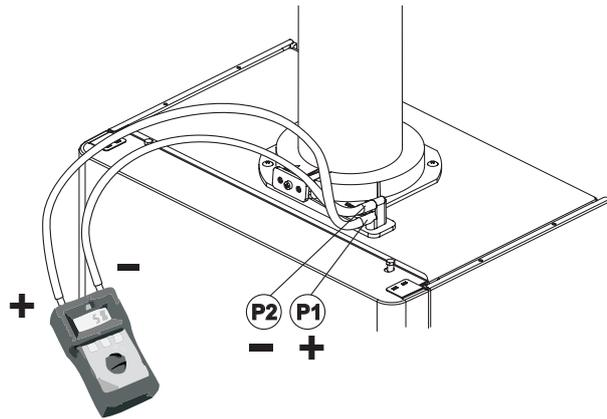

Fig. 28
Connect the flue gas analyser to the flue gas sampling point as shown in Fig. 28.
Notes: 1. Prior to servicing, it is recommended that a flue gas analyser is used to measure the performance of the boiler (refer to Fig. 28 for the position of the flue sampling point). If the CO/CO₂ ratio measured is greater than 0.003 **or** when other checks and comments from the customer have indicated that there may be problems, cleaning of the heat exchanger will be necessary. All Sections 6.1, 6.2, 6.3 and 6.4 **must** be carried out. Repeat the flue gas analyser test after reassembling the boiler and check that the CO/CO₂ ratio is less than 0.003.
3. Refer to Fig. 28 for location of flue sampling point.